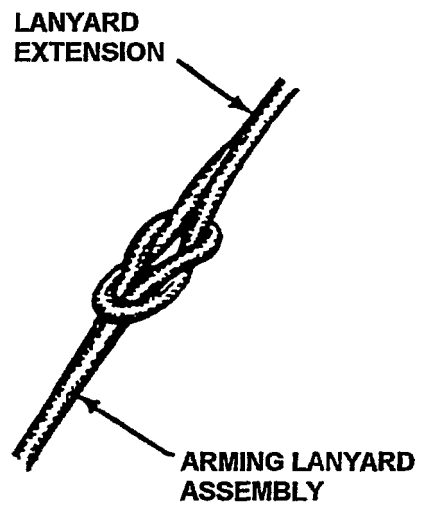

Figure 4-8C. Lanyard Extension Installation
- (1) Inspector, witness step (2).
- (2) Using lanyard obtained in step i, attach one end of lanyard extension to arming lanyard (Figure 4-8C). Pull lanyard extension/arming lanyard knot tight.